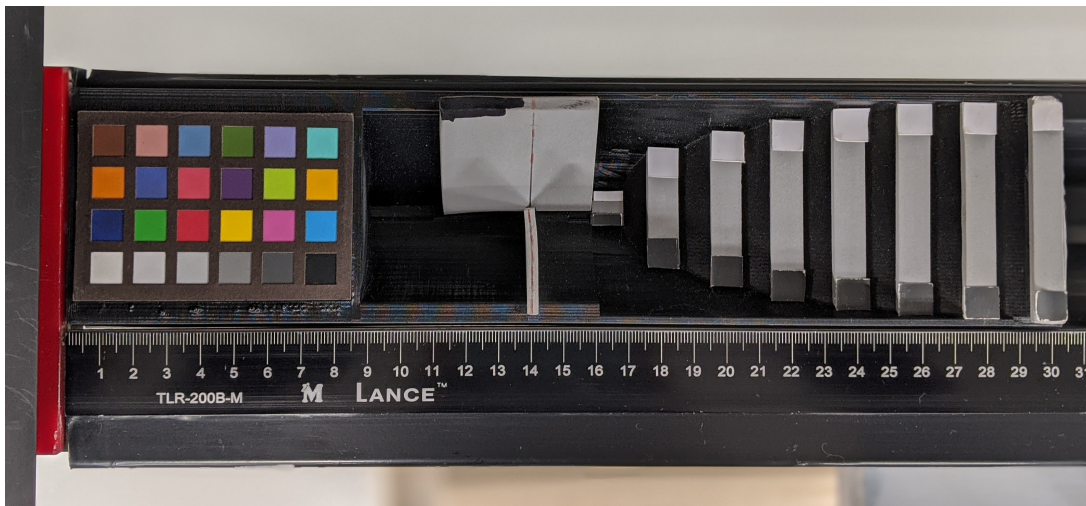

Figure 52: Color standard in track in correct orientation.
1. Place the 3D calibration standard on track as shown (Figure 52). The color squares must be oriented as pictured below, butted against the red reflection bar.